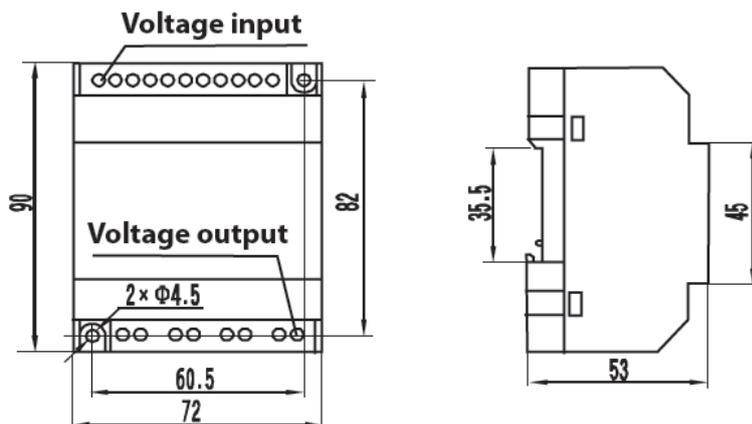

Figure 9
- Users indicate the rated working voltage and voluntarily install. The installation diagram is as shown in Figure 9.